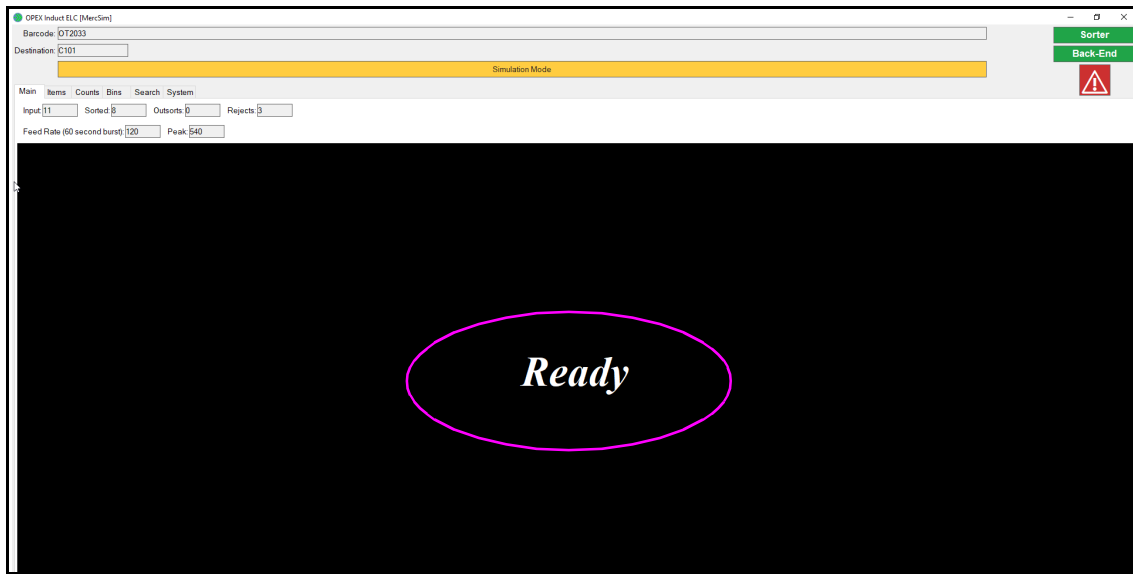

Figure 4-28: OPEX Induct ELC Screen
- When the system is ready for the first item to be entered, the ELC software interface will display the word “Ready” (see Figure 4-28).